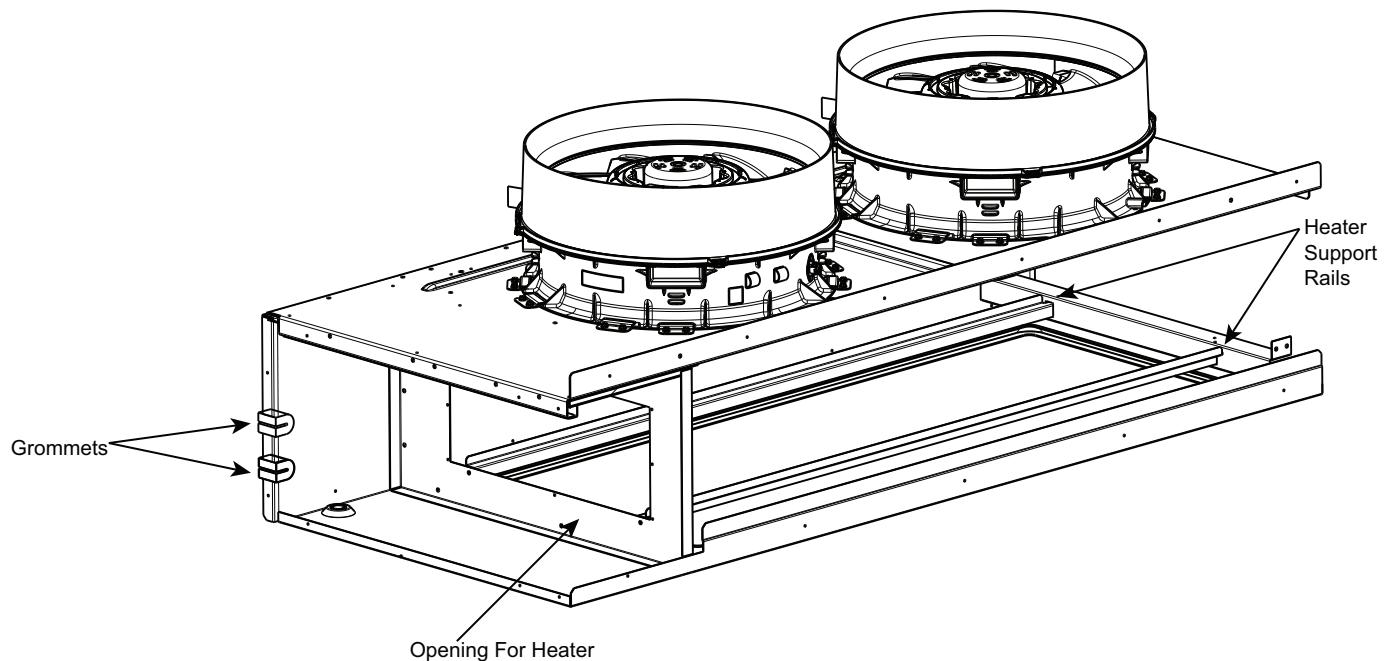

Fig. 42 — Opening for Electric Heater
4. Insert heater assembly through opening where block-off plate was previously removed. Let back end of heaters slide along support rails beneath fan deck. (See Fig. 42.)
6. Route heater power wires through grommeted notches in vertical fan deck support. (See Fig. 42.) Continue routing wires under coil and filter support through the bottom notched section of the control box. Avoid sheet metal edges and any protruding screws.